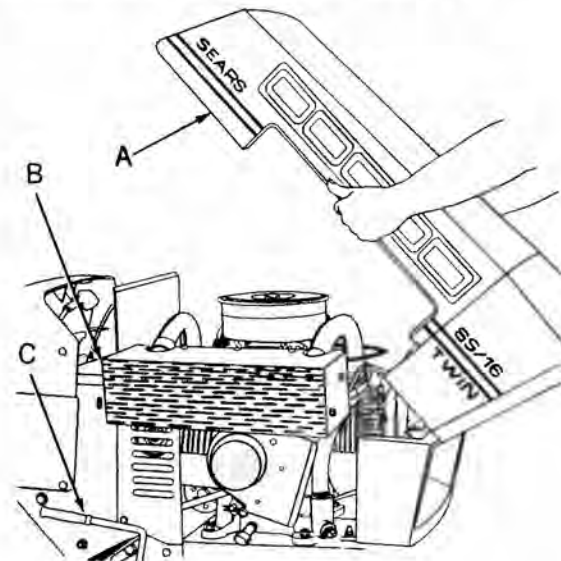
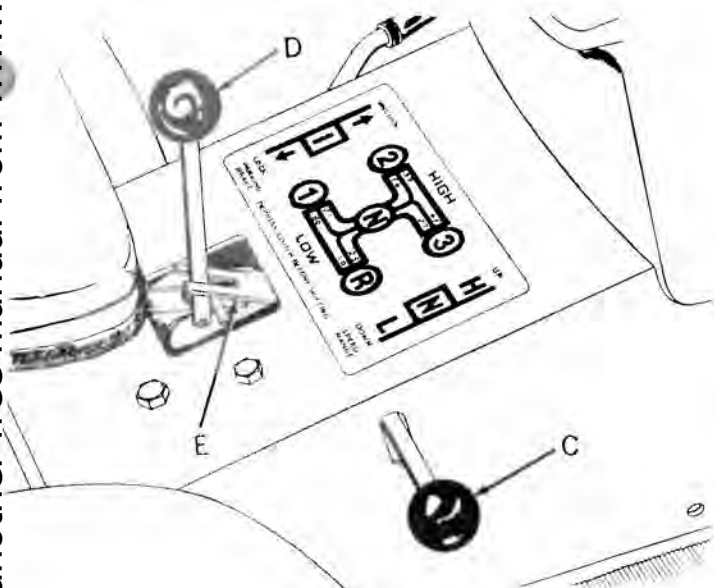
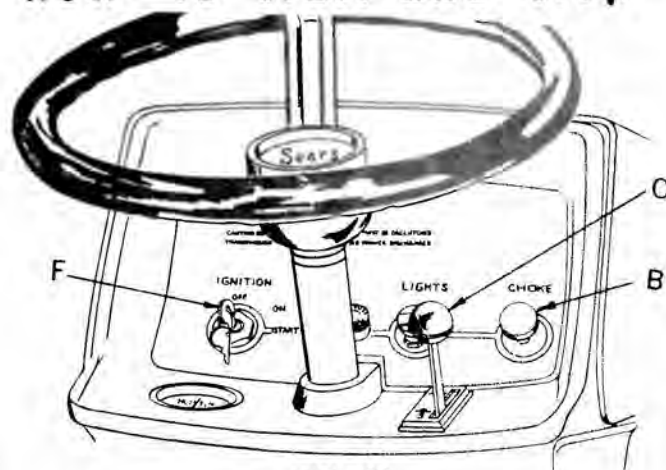

FIG. 3
FIG. 9
FIG. 11
2. Advance throttle control lever (C), to about $\frac{1}{2}$ throttle.
3. This Tractor is equipped with two safety switches. One switch is located on the gear shift lever (D, Fig. 9, Page 6, at point E). The other switch is located on attachment clutch lever (C, Fig. 3, Page 4). The gear shift lever must be in neutral (center position). The attachment clutch lever must also be in disengaged (out), position for engine to start. Turn key (F, Fig. 11, Page 6), in ignition-starter switch clockwise to engage starter. When engine starts, release key. After engine starts, push in choke control as engine warms up. Let engine warm up before applying load. **CAUTION:** Do not run starter continuously for more than 30 seconds at a time. If after several attempts, engine does not start, move throttle control (C), to fast position. Wait two minutes and try again.